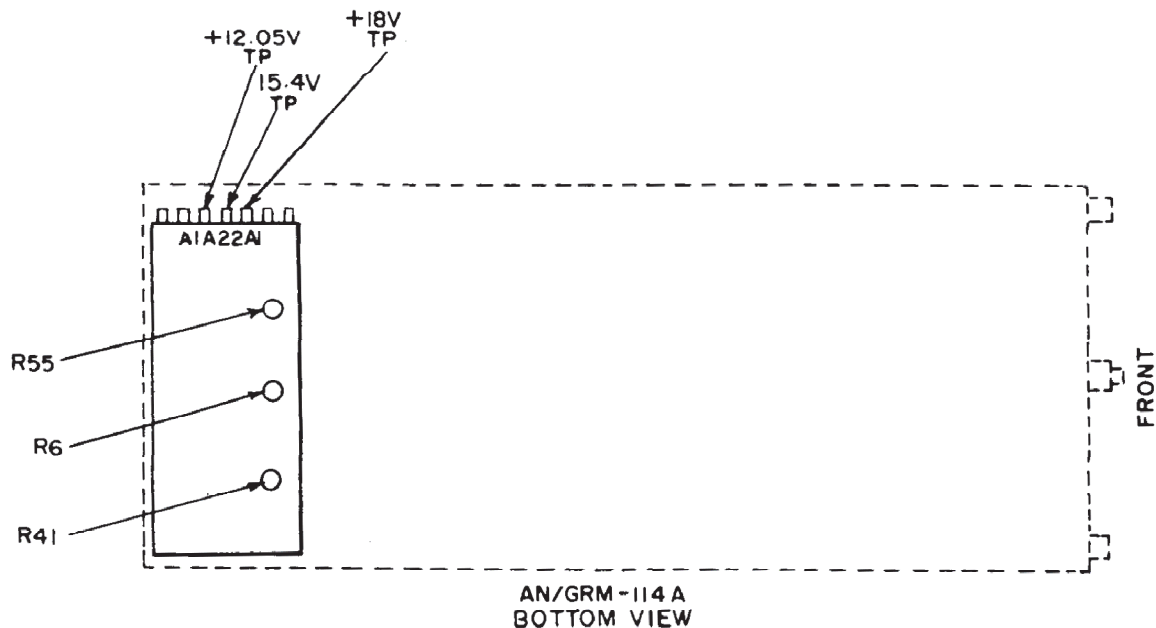

Figure 9. AN/GRM-114A - Bottom View.
- (1) Set **PWR-OFF-BATT** switch to **OFF** and remove battery from TI.
- (2) Connect decade resistor across battery terminals.
- (3) Set decade resistor for 150 Ω .
- (4) Connect multimeter to +18V TP (fig. 9) and chassis ground.
- (5) Set **PWR-OFF-BATT** switch to **PWR**. If multimeter does not indicate between 17.6 and 18.4 V dc, perform **b** (1) below.
- (6) Move multimeter positive lead to +15.4 V TP (fig. 9). If multimeter does not indicate between 15.55 and 15.25 V dc, perform **b** (2) below.
- (7) Move multimeter positive lead to +12.05V TP (fig. 9). If multimeter does not indicate between 11.95 and 12.15 V dc, perform **b** (3) below.
- (8) Set **PWR-OFF-BATT** switch to **OFF**, unplug from power and remove decade resistor from battery terminals.
- (9) Connect dc power supply and multimeter across battery terminals.
- (10) Set dc power supply voltage for a 12 V reading on multimeter.
(11) Set **PWR-OFF-BATT** switch to **BATT** and slowly reduce dc power supply voltage until TI just shuts off. If multimeter does not read between 10.9 and 11.1 V dc, perform **b** (4) below.
- (1) Adjust A1A22A1R41 (fig. 9) for an 18 V indication on multimeter.
- (2) Adjust A1A22A1R6 (fig. 9) for a 15.4 V indication on multimeter.
- (3) Adjust A1A22A1R55 (fig. 9) for a 12.05 V indication on multimeter.